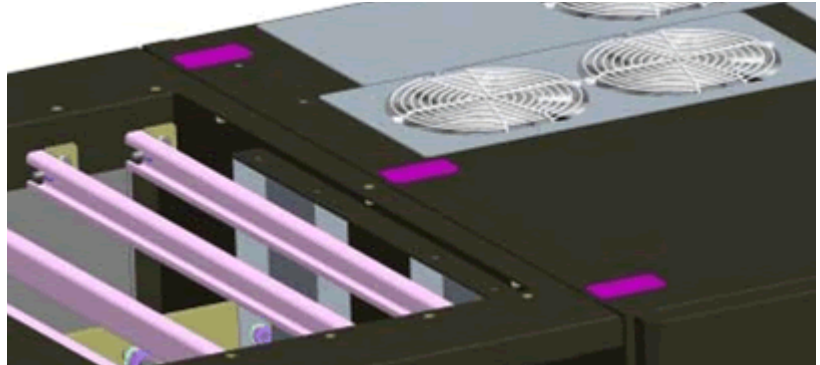

Figure 3.20 Cabinet tie bars
5. Using 6x M5 screws, secure the tops of the cabinets together by fitting three tie bars as shown in Figure 3.20.